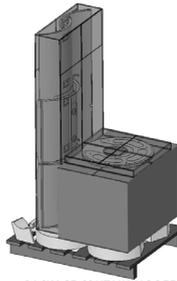

FIG. 2 - PACKAGE CONTAINING REFRACTORY PARTS AND BOX WITH SIDES, CERAMICS AND TOP (STUB OVERNIGHT)
- A pallet containing the refractory parts, a cardboard box with the sides, a box with the ceramics and a box with the top Fig.2/3.